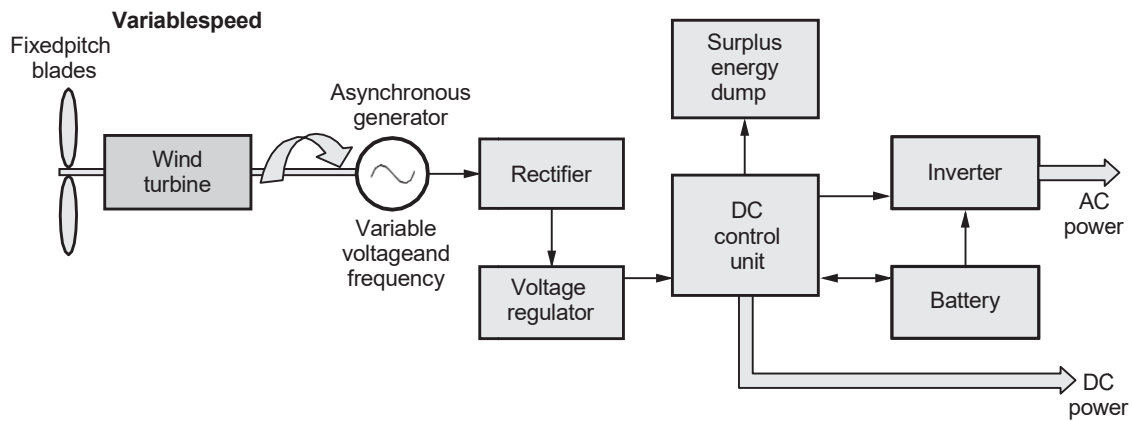

Fig.3.14.1 Small scale wind power (Domestic systems)
- Fig. 3.14.1 shows the components and its arrangement for small scale domestic wind power system.
- Simpler, dedicated power units are needed for applications such as pumping water, electric fences, traffic signals, navigational aids, Cathodic Protection (CP) to prevent corrosion in oil, gas and chemical installations, remote monitoring and portable systems for recreational and emergency vehicles.